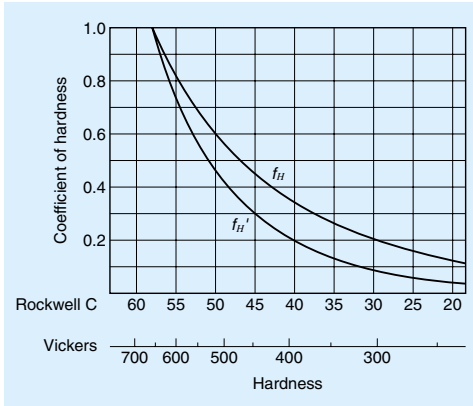

Fig. II-3.6 Hardness coefficient
- f_H : Hardness coefficient (Refer to Fig. II-3.6)
- f_H' : Static hardness coefficient (Refer to Fig. II-3.6)